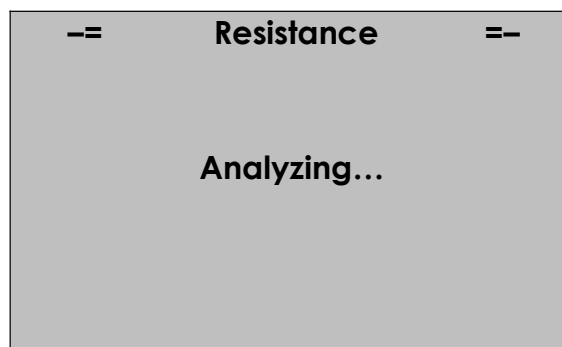

Figure 3.22
3.8.3 Activator will start measurement. Display will look as shown on Figure 3.22.